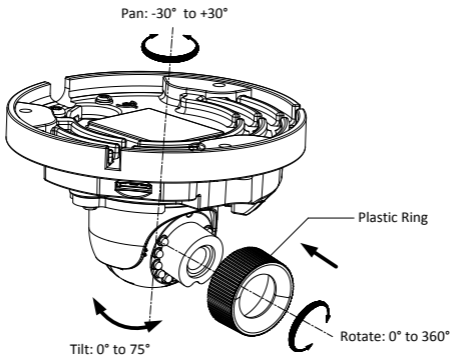

Figure 2-5 Adjust Surveillance Angle
4. Adjust surveillance angle. See Figure 2-5.